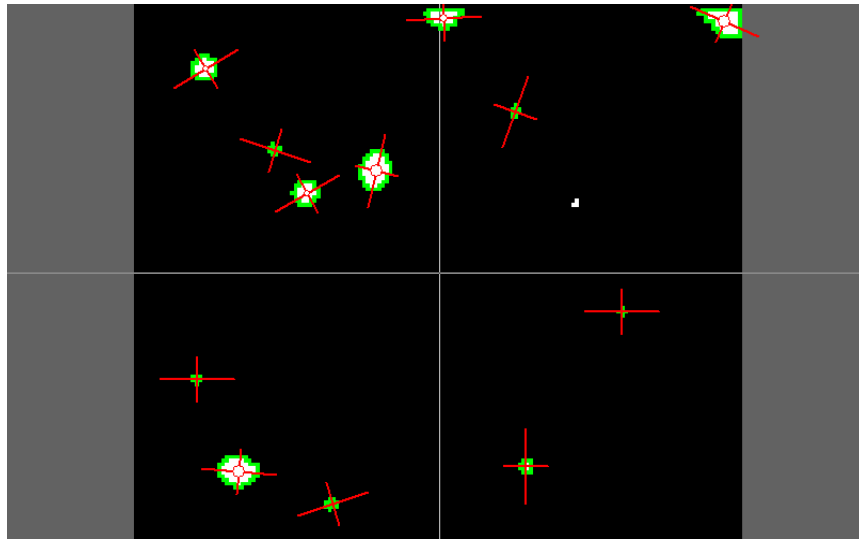

Figure 7
- As the video advances frame by frame, ProAnalyst will outline any particles that fall within its defined parameters (Figure 7 shows Frame 38 of the *spray_bottle_droplets.avi* video).